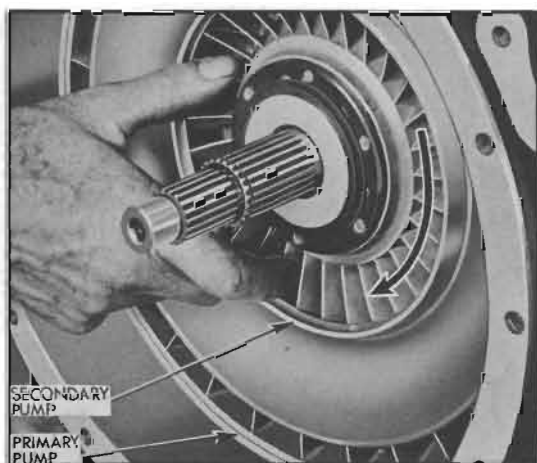

Figure 4-77—Checking Secondary Pump Free Wheeling Clutch
7. Check the secondary pump for free-wheel clutch slippage. Pump should turn freely in clockwise direction but lock tight in opposite direction. See figure 4-77.